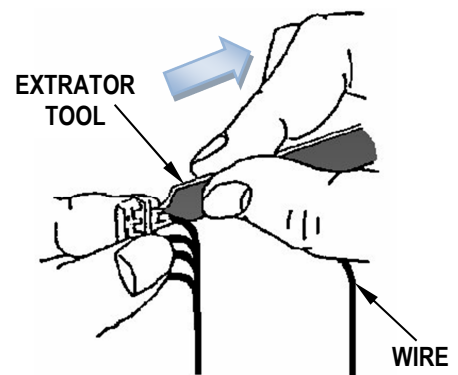

Figure 4
2. Hold the wire against the extractor tool, and pull out the wire and the extractor tool at the same time. See Figure 4.